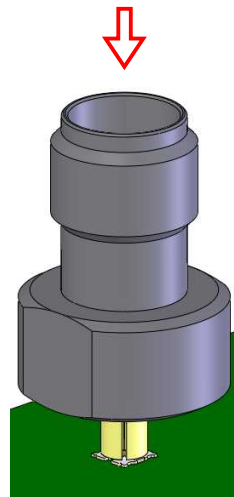

Fig. 9
- ② Push the inspection adapter vertically as shown in Fig. 9.